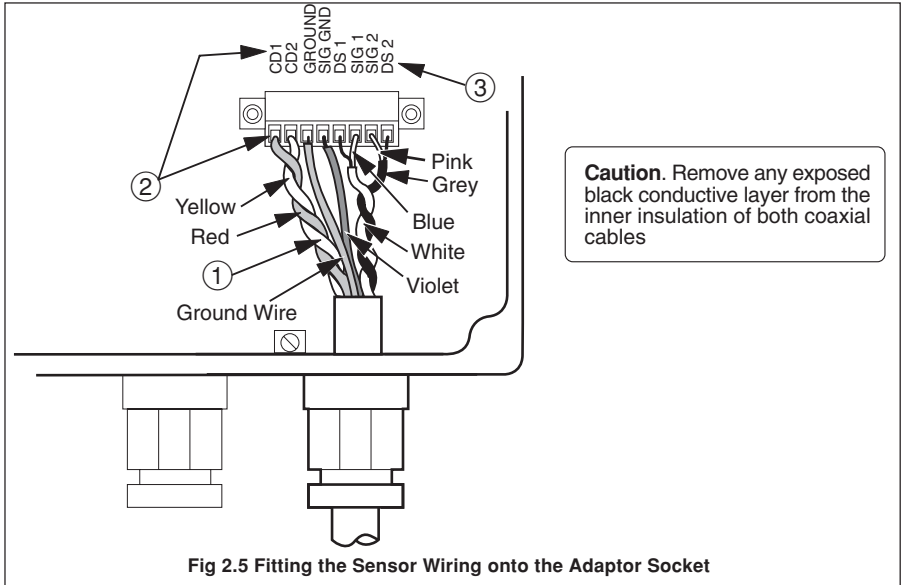

Fig 2.5 Fitting the Sensor Wiring onto the Adaptor Socket
### 2.2.3 Wiring the Adaptor Socket (Fig. 2.5)
- ① Adjust the wire lengths of the sensor cable to allow for termination and subsequent removal of the adaptor socket.
- ② Insert the sensor cable wiring into the socket as shown in Fig 2.5, and tighten the plug screws with the screwdriver provided.
- ③ Insert the adaptor socket into the plug on the adaptor PCB.